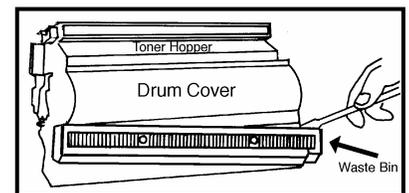

Figure 4
7. Remove the waste bin from the cartridge shell. Lift the waste bin by the right side using a flat head screwdriver and jockey it out by lifting up and to the right (Fig. 4).